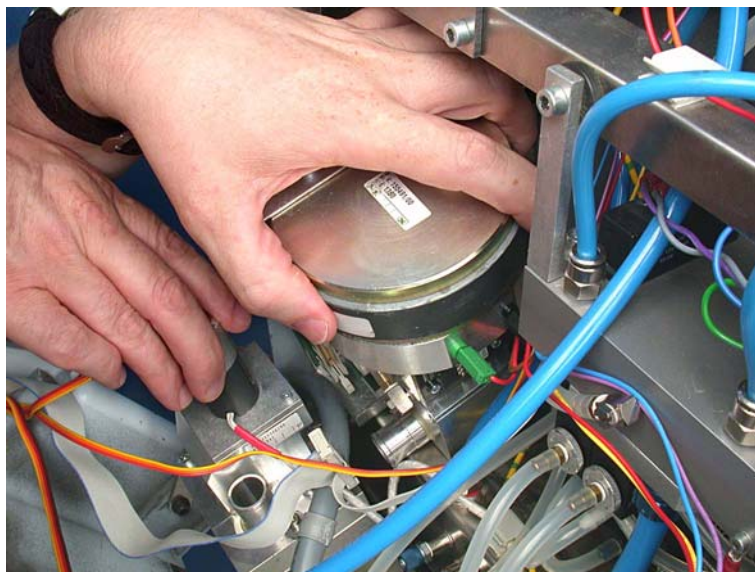

Figure 11-121. Removing the inspiratory valve
7. Push the safety valve block forward, remove the inspiratory valve. (Figure 11-121.)